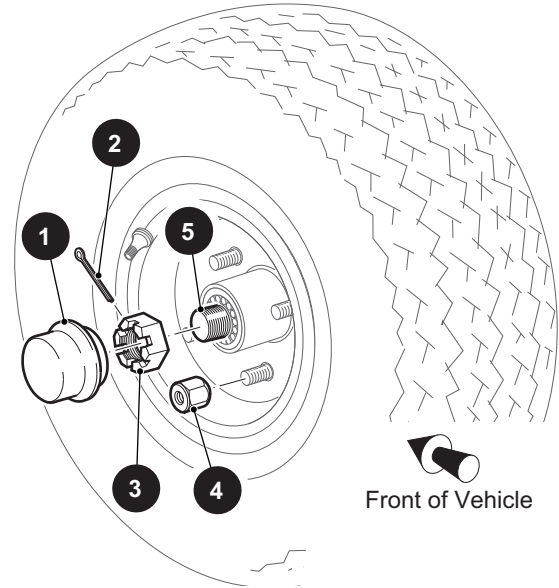

Figure 3 Bearing Adjustment
2. Remove the dust cap (1) and the cotter pin (2).
3. Loosen the castellated nut (3). (Figure 3).
4. If performing a wheel bearing adjustment as part of another procedure, make sure the wheel is mounted to the hub hand tight with lug nuts (4), and the hub is loosely retained on the spindle (5) with the castellated nut (Figure 3).
6. Rotate the wheel two to three more turns to displace excess grease. If required, tighten the castellated nut (3) again until slight resistance is felt. If the cotter pin hole in the spindle (5) aligns with a slot in the castellated nut, insert a new cotter pin (2). If the hole does not align, **loosen** the castellated nut to align with the **closest available** slot in the nut.
7. Check for smooth and free rotation of the wheel, and an absence of play when the wheel is grasped by the outside of the tire. Bend the cotter pin (2) against the flats of the castellated nut (3).
8. Replace the dust cap (1) and lower the vehicle as instructed in the SAFETY section.